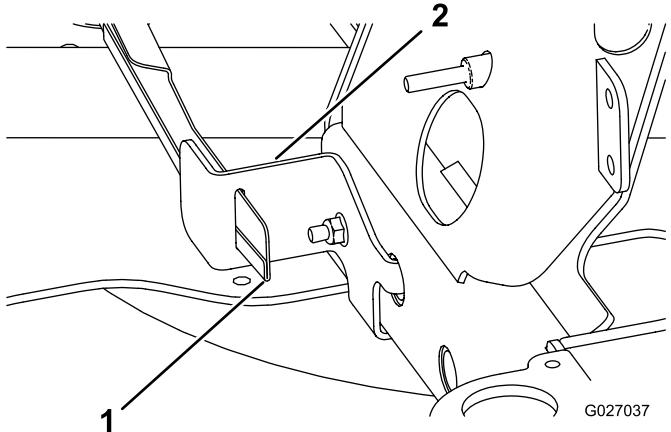
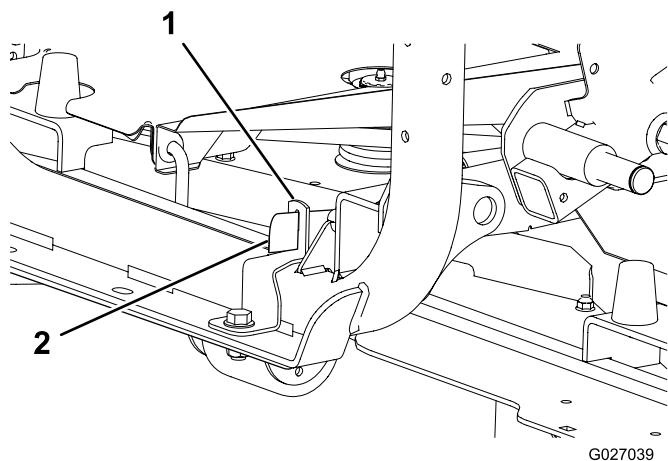

Figure 26
Figure 27
2. Install the driveshaft shield through the slot in the shield support installed in procedure 11 Mounting the Shield Support (page 9); refer to Figure 26 or Figure 27.